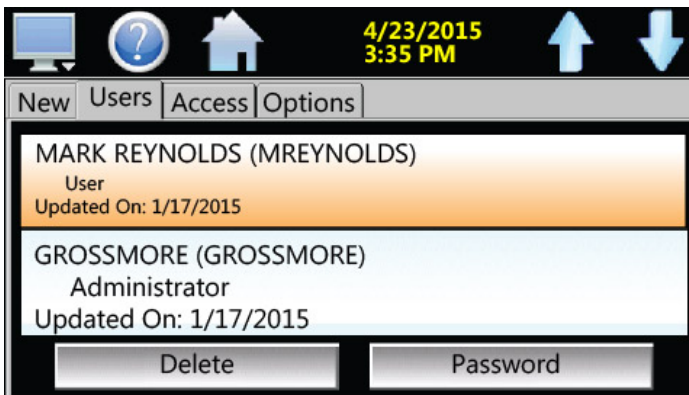

Fig. 33: View Users Screen
2. At the CONFIGURE screen (Fig. 33), select the USERS tab to view information on every user entered into the system. Use the blue up and down arrows in the upper right-hand corner to scroll through the list.